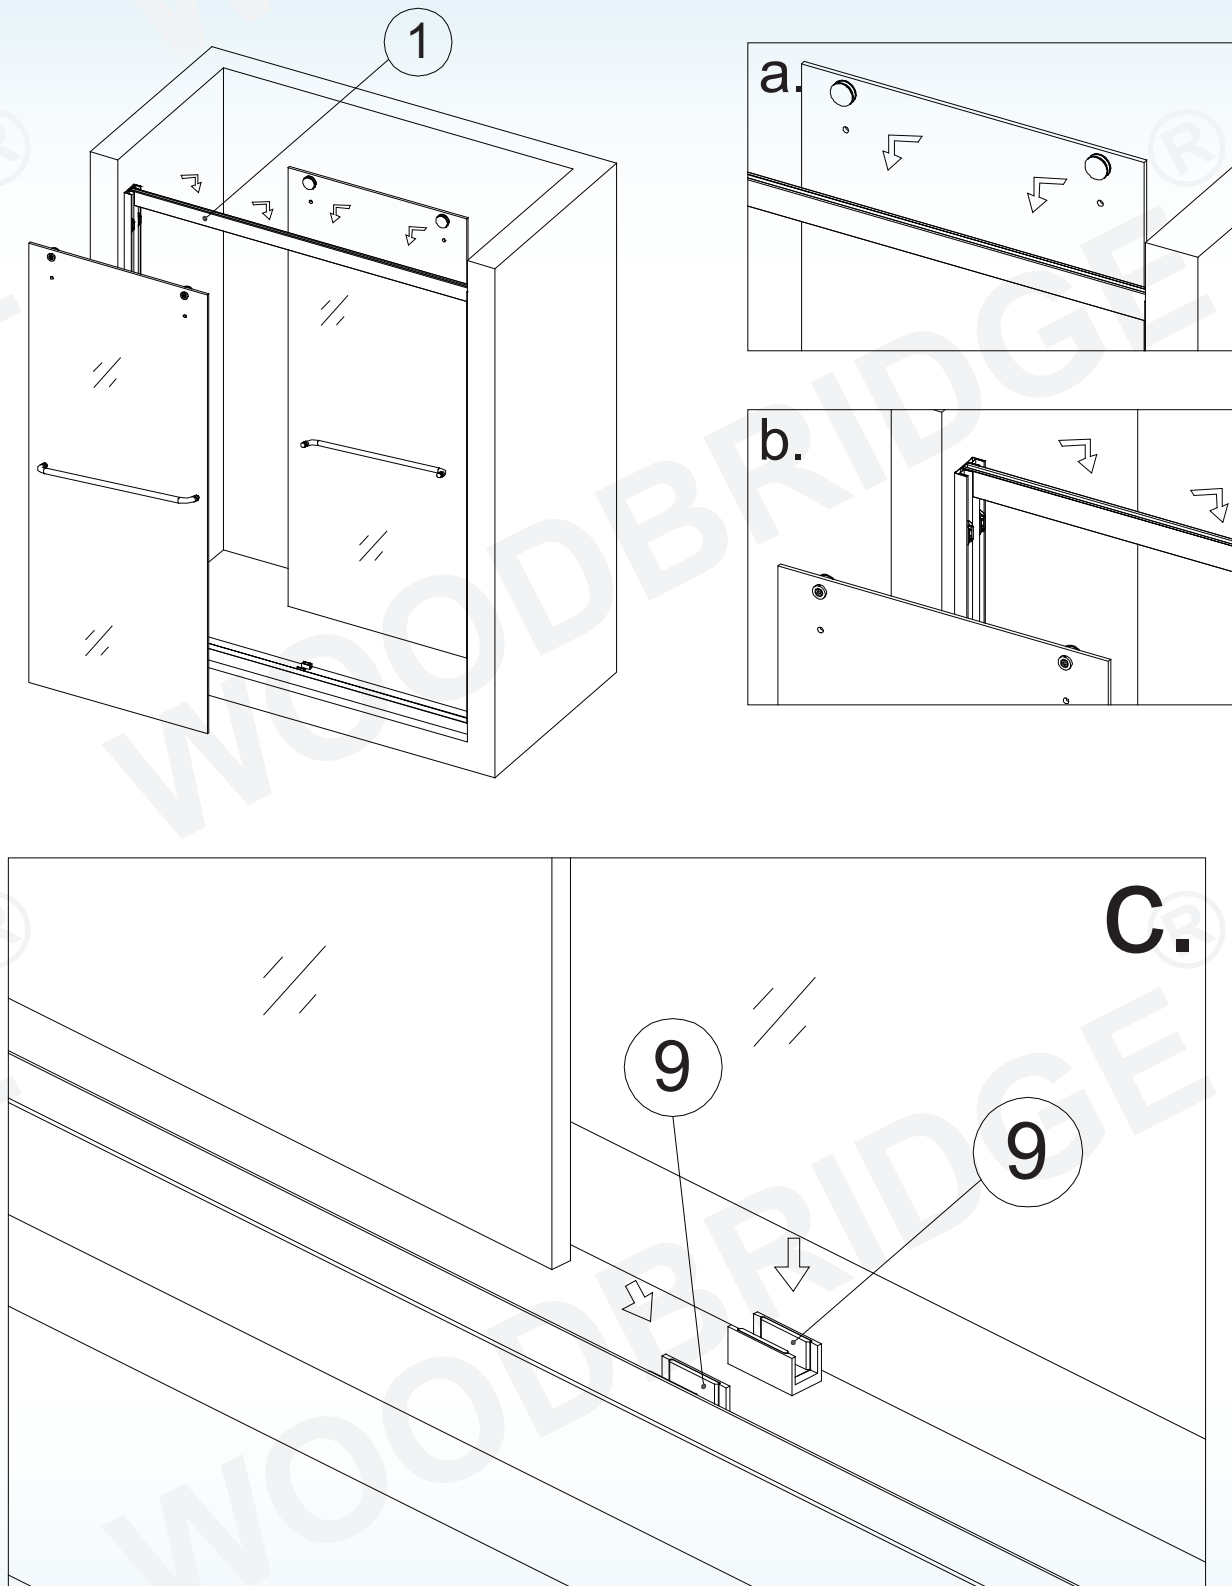

Fig 16
16. Hang the Glass Door Assembly back to the Header Bar (1) once again and make sure that the bottom of the glass doors are put into the slot of the Guide Blocks (9). Please see Fig 16 for details